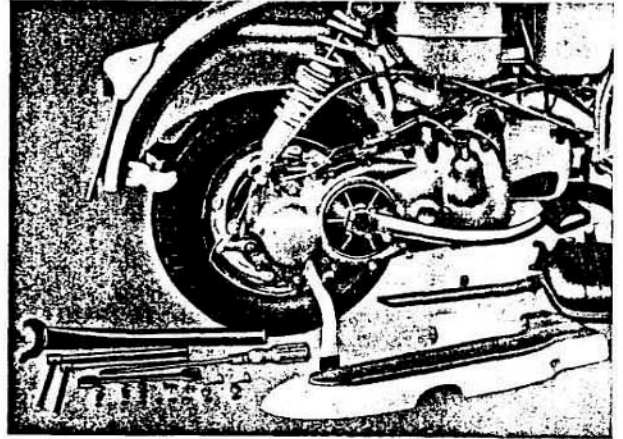

Fig. 1
- 3 Dismantle the R. Hand footboard, unscrewing the two nuts fixing it to the frame (8mm spanner), the screw fixing the frame connecting piece, and the two screws fixing the footboard bracket (14mm spanner). See Fig. 1.